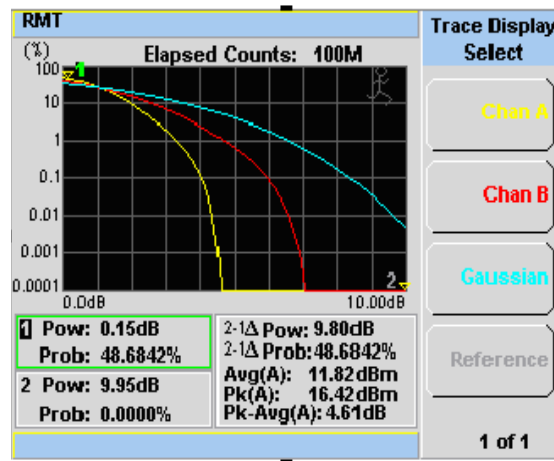

Figure 9-147 Trace Display Select control menu
- Press **Trace Control**, **Trace Display** and select the trace that you wish to display. The trace which is not selected is grayed out, as in Figure 9-147.